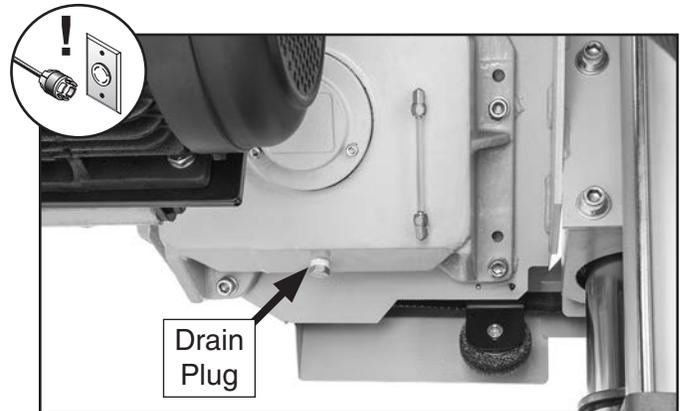

Figure 67. Location of drain plug.
5. Place drain pan under drain plug (see **Figure 67**), remove drain plug, and then drain gear oil.